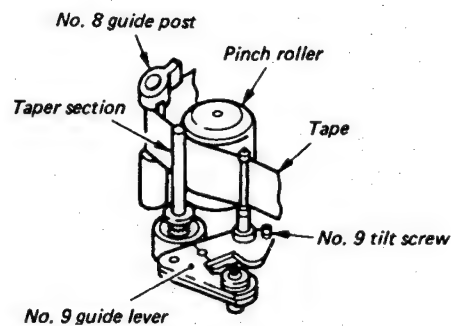

Fig. 1-4-14 No. 9 guide lever adjustment
3. If the tape runs along the upper flange or tape wrinkle occurs, turn the No. 9 tilting screw in Fig. 1-4-14 counterclockwise and adjust the screw until the tape runs along the lower flange.
4. If tape wrinkle occurs at the lower flange, turn the No. 9 tilting screw in Fig. 1-4-14 clockwise until tape wrinkle disappears.